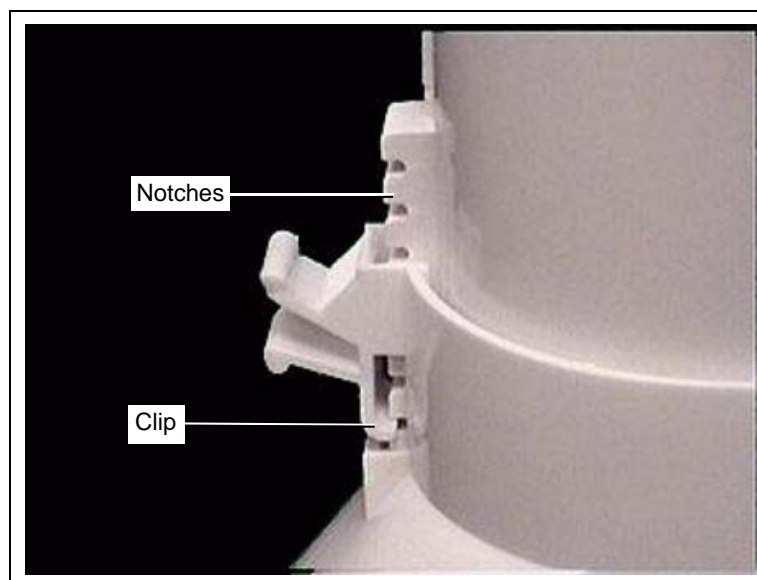

Figure 7I
7. Place the clip into the preferred notch. The standard setting is with three (3) notches visible. (See Figure 7I.)